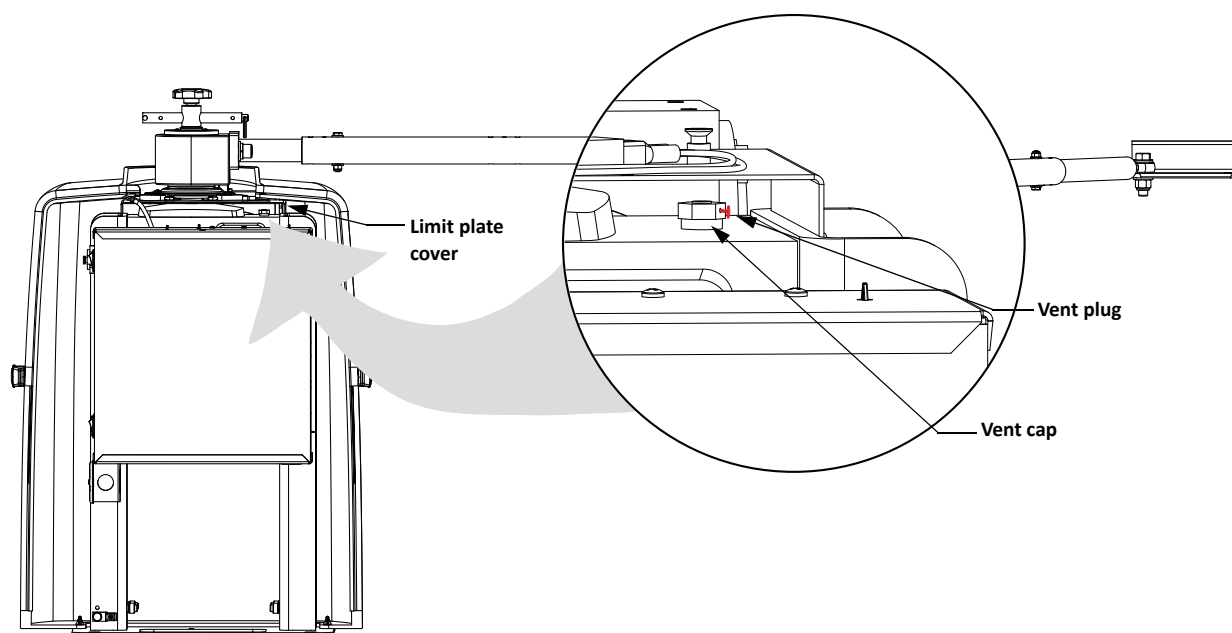

Figure 1-17.
2. Leverage the tip and slide the red plug out of the vent cap. Refer to Figure 1-17.